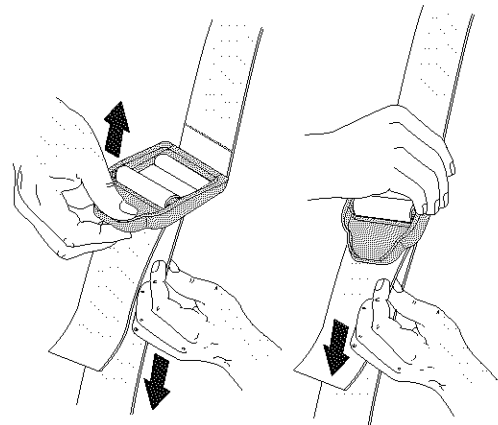

Fig. 8
4. While standing in the operating position adjust length to fit the operator's size. Pull tab to lengthen, pull strap to shorten (Fig. 8).